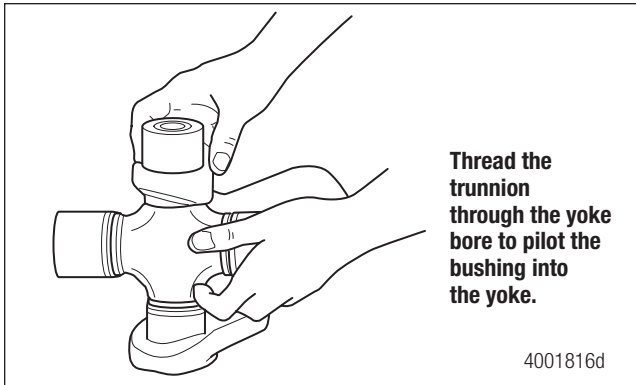

Figure 9.18
5. Position the second bushing onto the trunnion by threading the cross through the yoke bore as shown. Figure 9.18.